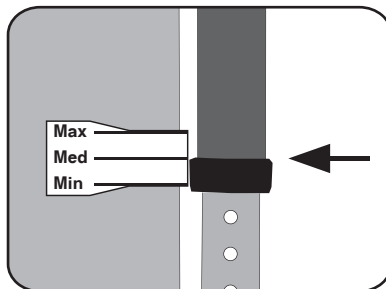

Fig. 3: Move the calibration gauge so the Maximum mark lines up with the bottom of the mast.
3) Move the velcro downhaul gauge at the bottom of the sail so that the medium mark of the gauge lines up with the bottom of your mast (figure 3).